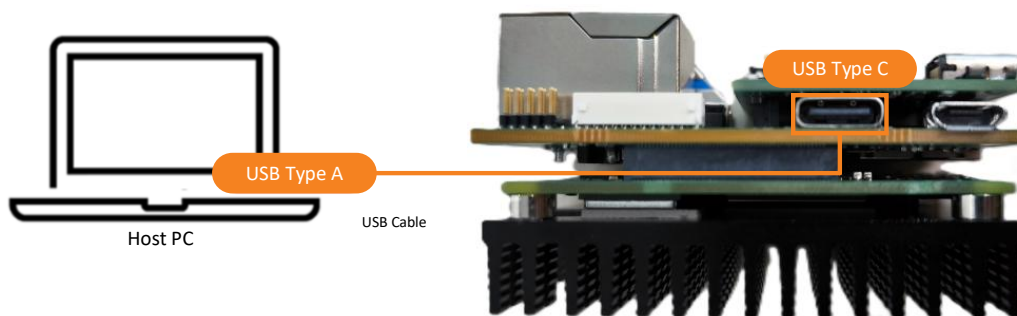

Figure 5.14. Hardware Setup for Flashing RPi CM5 OS
2. Connect the board to the PC using a USB Type A to Type C cable as shown in Figure 5.14.